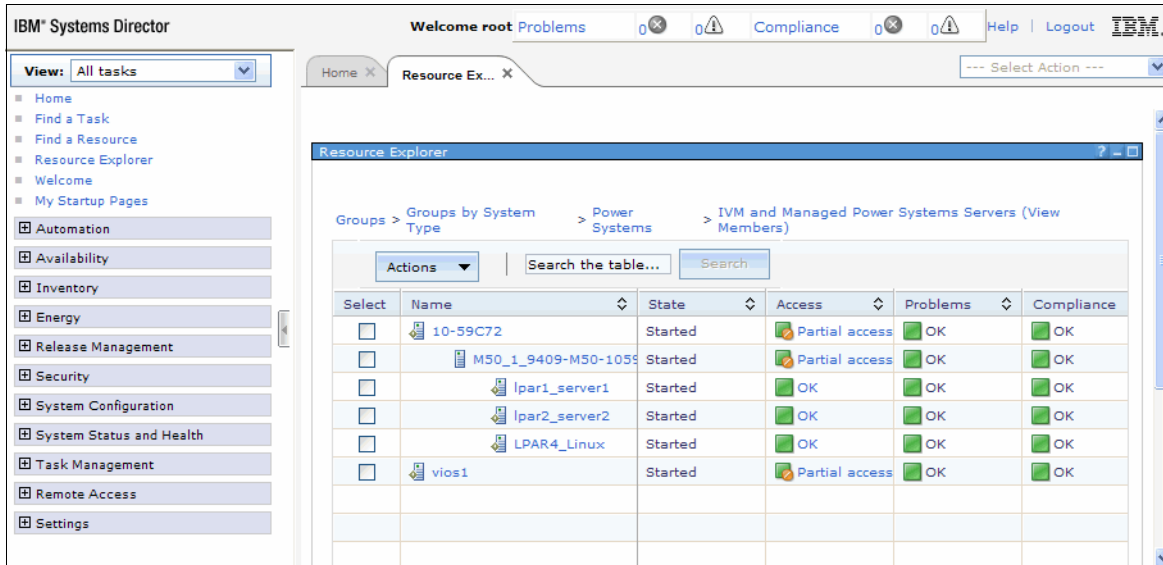

Figure 5-35 Resource Explorer: Power Systems servers view
- ▶ Now you are able to see all the servers that are managed by the IVM, as shown in Figure 5-35. It is possible to have access to their partitions (and do most of the IVM operations), validating it with a **padmin** user and password.